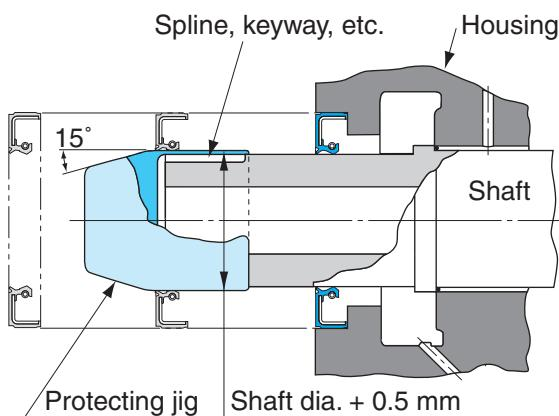

Fig. 1.7.7 Seal protecting jig for spline, keyway, holes on shaft
- 7) In case of shaft has spline, keyway, or holes, use seal protecting jig to prevent lip damage as illustrated bellow (Fig. 1.7.7). If difficult to use jig, remove sharp corners, round the edges and coat enough grease.